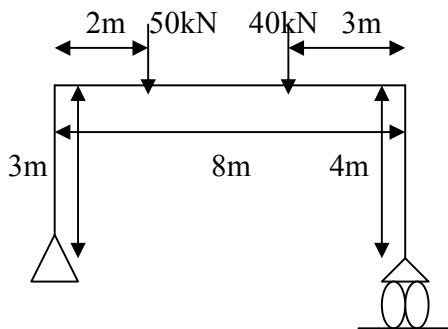

Figure 1
- (a) For a structure as shown in the figure.1, draw bending moment, shear force and axial force diagrams. **07**